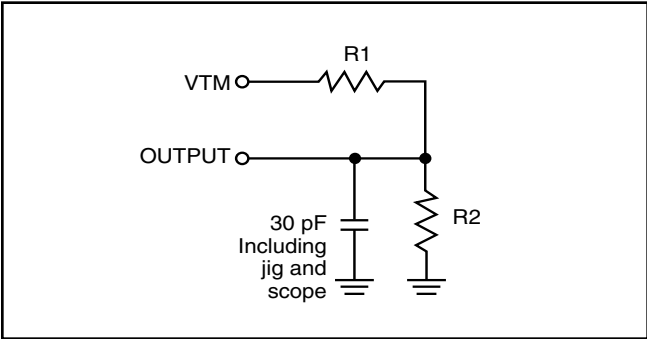

Figure 1
1. Test conditions assume signal transition times of 5 ns or less, timing reference levels of 0.9V/1.5V, input pulse levels of 0.4 to $V_{DD}-0.2V/V_{DD}-0.3V$ and output loading specified in Figure 1.
1. Test conditions assume signal transition times of 5 ns or less, timing reference levels of 0.9V/1.5V, input pulse levels of 0.4V to V_{DD}-0.2V/V_{DD}-0.3V and output loading specified in Figure 1.